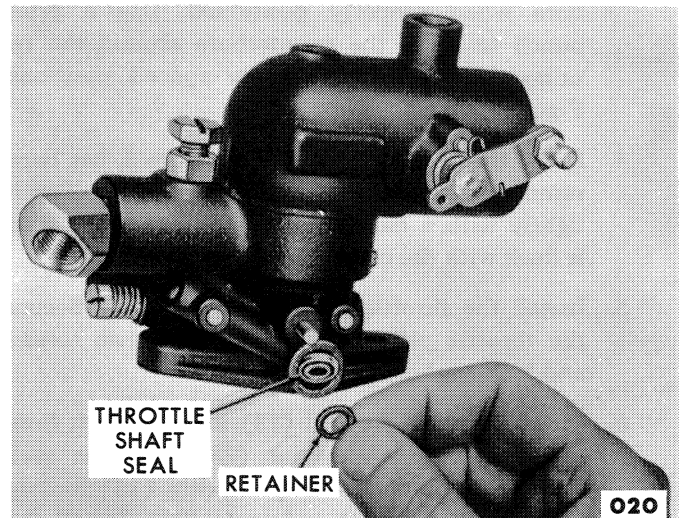

Figure 9—Installing Throttle Shaft Seal and Retainer
3. Ream the choke and the throttle shaft bores at the points where previous "staking" of the metal was used to hold the shaft seal retainers in place. Clean the shaft hole counterbores thoroughly. Position a new throttle shaft seal into the counterbore so that the sealing lips face outward as shown in Figure 9. Work the seal into the bore using a pencil or similar item.